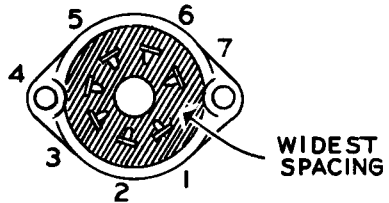

Fig. 3
- () Mount the small solder lug and the tube socket on the tube mounting bracket by means of 3-48 screws, lockwashers, and nuts. See Figure 2 and Figure 7. Make certain that the widest spacing between pin holes (see Figure 3) is as shown in Pictorial 1.